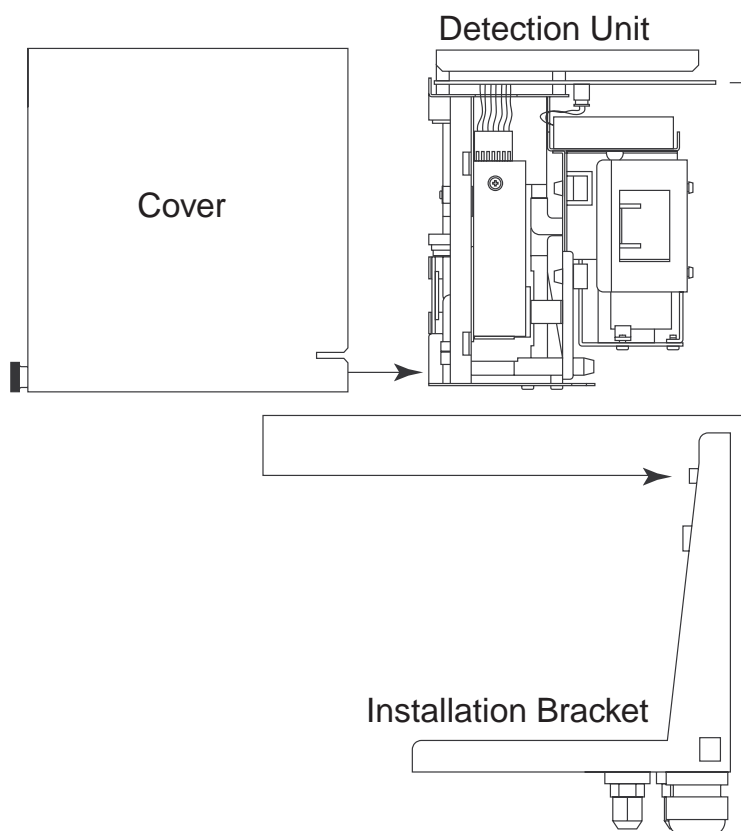

Figure 1: Sections of the GD-K7D2
The painted steel cover slides over both the detection unit and installation bracket. It is radio frequency (RF)- and dust-resistant. A thumbscrew on the front of the cover near the bottom secures the cover to the installation bracket (see Figure 1). The cover includes a label on the front that indicates the target gas and detection range of the GD-K7D2.